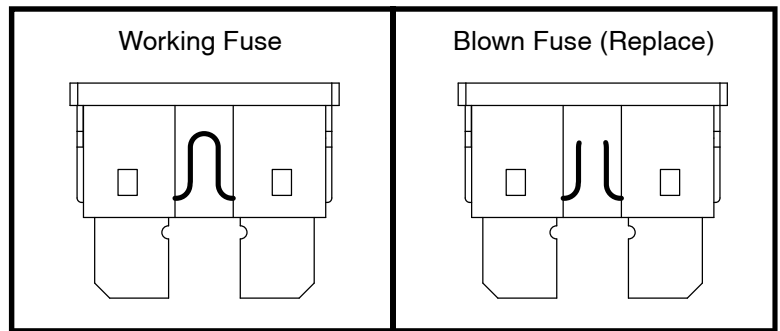

Figure 20. Fuse Replacement
2. Examine the fuse to be sure it is blown. See **figure 20**.